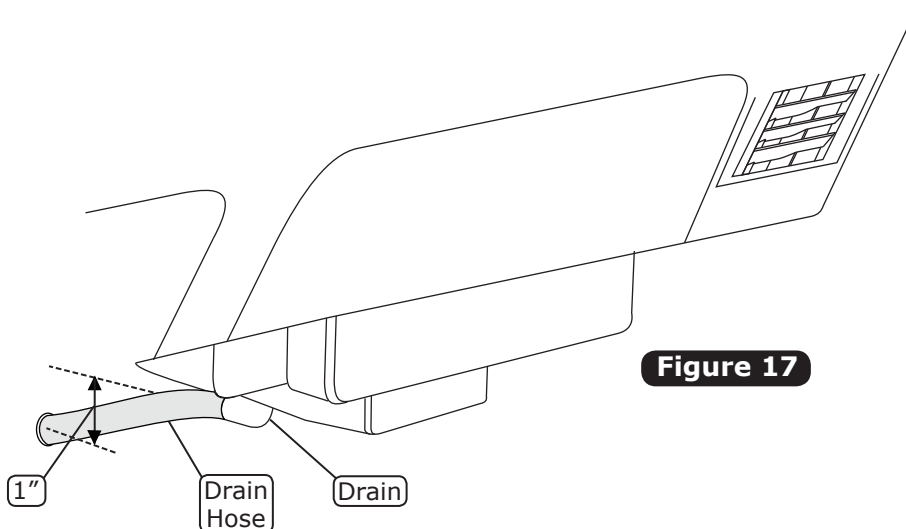

Figure 17
2. In line with the drain, lightly make a mark on the firewall. Measure one inch down and drill a 5/8" hole through the firewall (See Figure 17, below).
3. Attach the drain hose to the outlet on the bottom of the evaporator unit, and route through the firewall (See Figure 17, below).